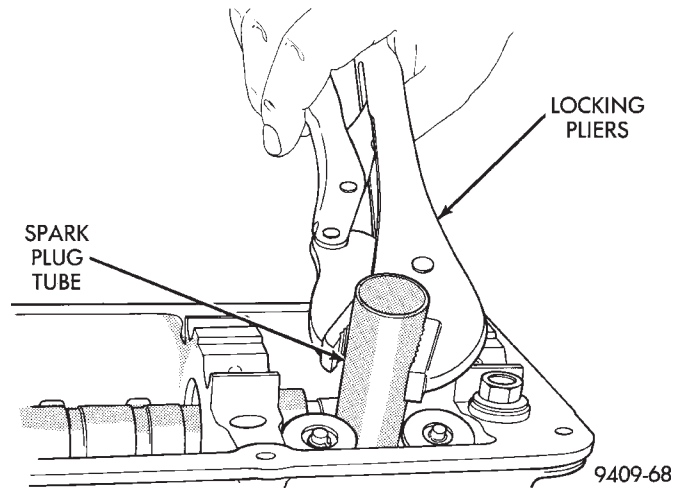

Fig. 29 Servicing Spark Plug Tubes
- (1) Remove cylinder head cover. Refer to procedure in this section.
- (2) Using locking pliers remove the tube from the cylinder head (Fig. 29). Discard old tube.
- (3) Clean area around spark plug with Mopar® parts cleaner or equivalent.
- (4) Apply Mopar® Stud and Bearing Mount or equivalent to a new tube approximately 1 mm from the end in a 3 mm wide area.
- (5) Install sealer end of tube into the cylinder head. Then carefully install the tube using a hardwood block and mallet until the tube is seated into the bottom of the bore.
- (6) Install cylinder head cover. Refer to procedure in this section.